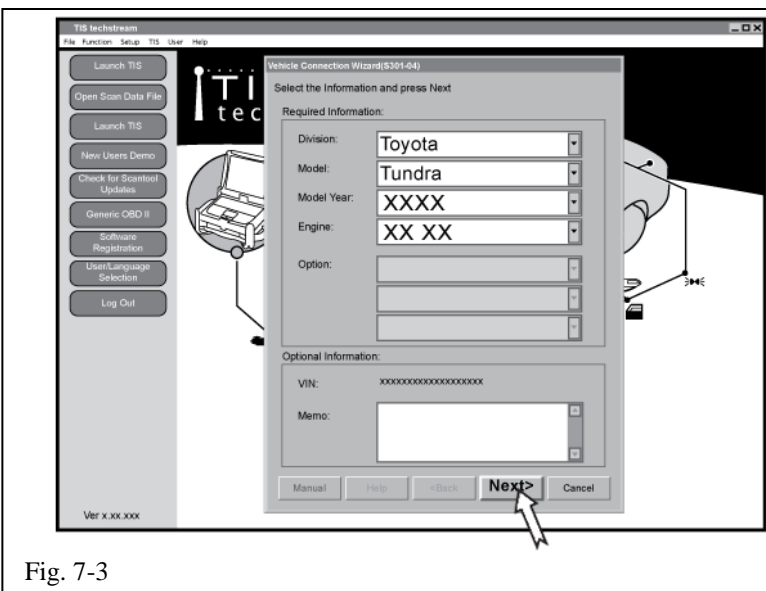

Fig. 7-3
- (e) Confirm that the information displayed on the Vehicle Connection Wizard is correct for the vehicle. If not verify that the Techstream is properly connected. (Fig. 7-3)
- (f) Click “Next>.” (Fig. 7-3)